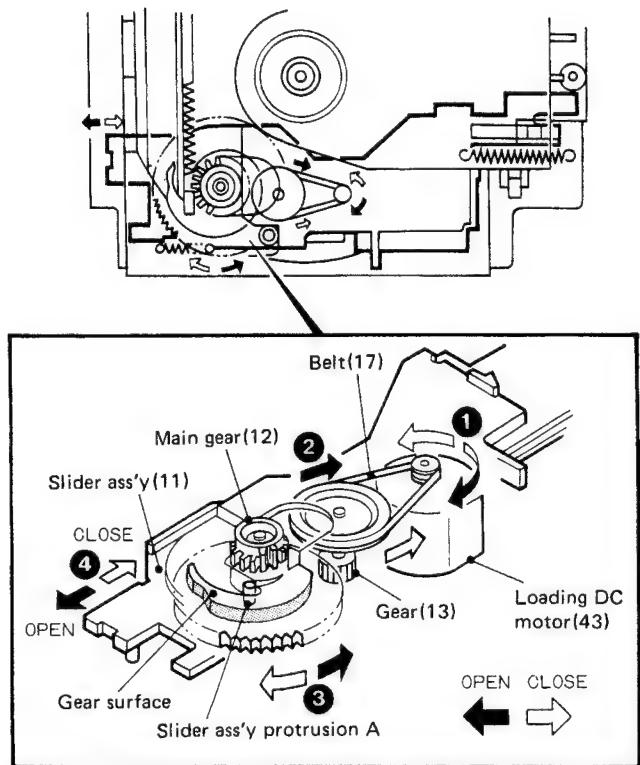

Fig. 2 Loading motor rotation transmission
As shown in Fig. 2, loading DC motor (43) rotates in the direction of the black arrow 1 and transfers the rotation of the black arrow 2 to the gear (13) via the belt (17), and also rotates the main gear (12) in the direction of the black arrow 3 with the lower gear section of the gear (13). The main gear (12) contains the cam on its upper surface. Along with the surface of the cam, protrusion A located in the lower side of the slider ass'y (11) is shifted and the slider ass'y (11) begins to move in the direction of the black arrow 4.